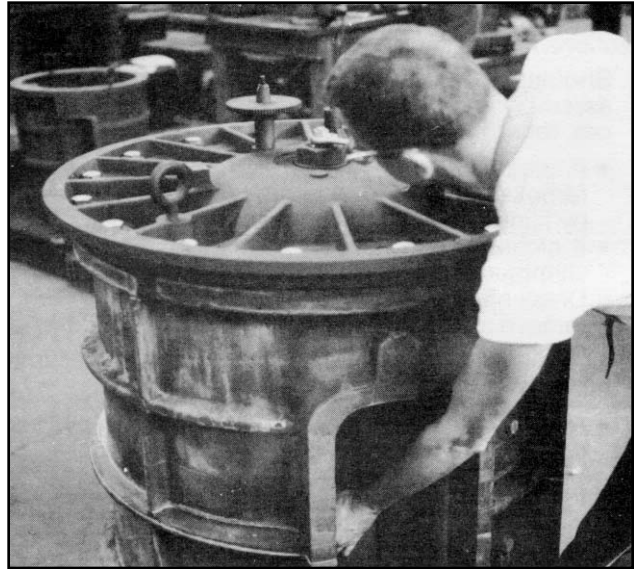

Figure 60
- Loosen the adjusting screw lock nut and while turning the rotor, Figure 60, slowly raise the rotor assembly until it just begins to bind against the top cover.